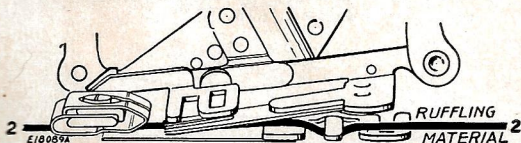

FIG. 73. CORRECT POSITION FOR THE MATERIAL
- (2) Insert the material to be pleated between the two blue blades **Line 2, Fig. 73**.